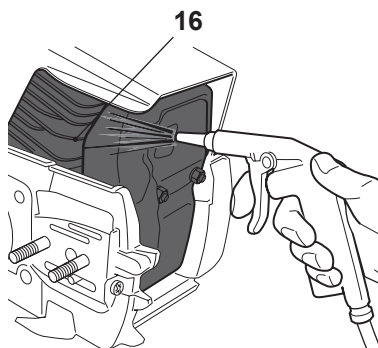

Fig. 56
Dust clogging between the cylinder fins (16) will cause overheating of the engine. Periodically check and clean the cylinder fins (16) (Fig. 56).